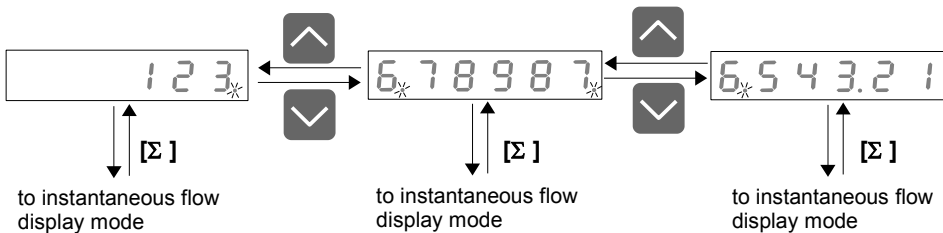

Figure 6.3. Switching between digits (screens) of total flow result.
- while medium digits are displayed both most left and most right decimal points are flashing (Figure 6.3). Most right decimal point signalizes that result has less significant digits – to see these digits press **[v]** button. Most left decimal point signalizes additional more significant digits. Press **[^]** button to see these digits.